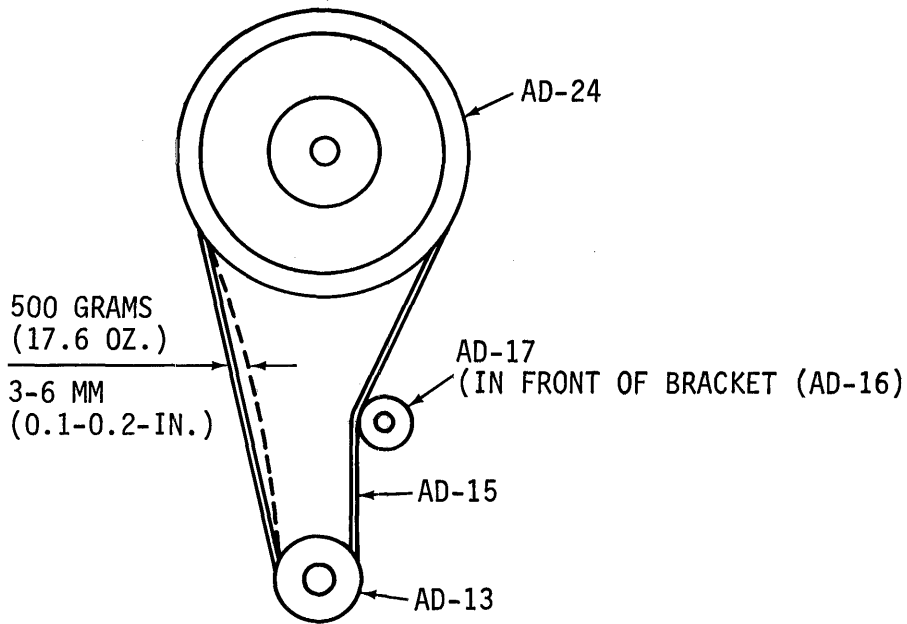

Figure 5-2. ADJUSTMENT OF TIMING BELT (AD-15)
A. Timing Belt (AD-15) (Refer to Figure 5-2)